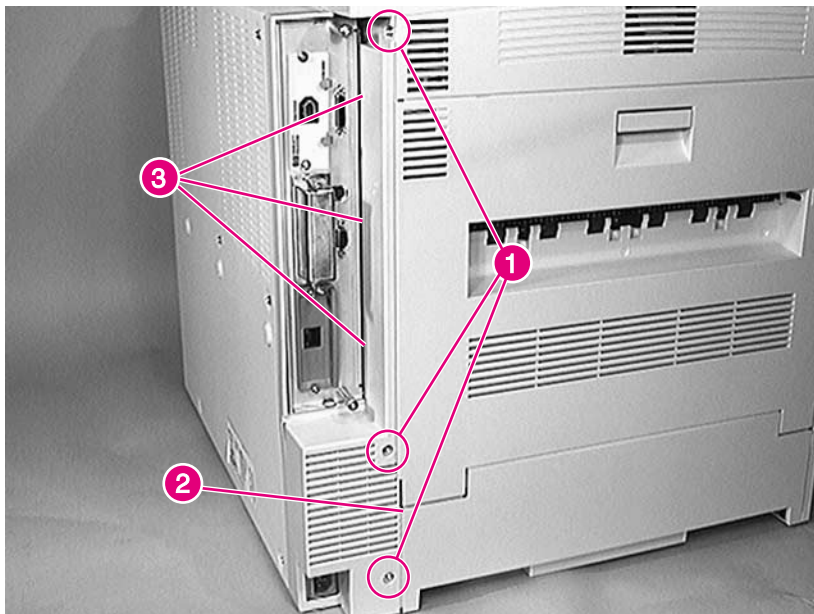

Figure 6-5 AC Access Cover
- 2 Remove 3 screws (figure 6-5, callout 1).
- 1 Insert the panel edge (figure 6-5, callout 2) inside the back cover (if installed).
- 2 Be sure to insert the three alignment tabs (figure 6-5, callout 3) into their slots before replacing the screws.
- AC Access Cover (see figure 6-5 on page 268)